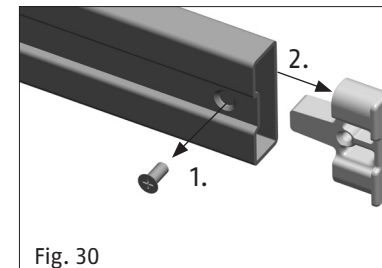
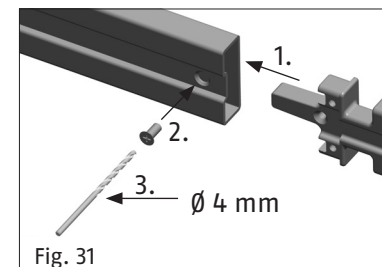

Fig. 30
Fig. 31
1. First, loosen the screws on the back of the bolt and remove the bolt end cap (fig. 30). Insert bolt end cap for door guard function and tighten all the way with self-tapping screw. Drill cross-head of screw with HSS drill  $\varnothing 4$  mm (fig. 31) and apply touch-up stick or lubricant or similar to the outline of the hole (to protect from corrosion).